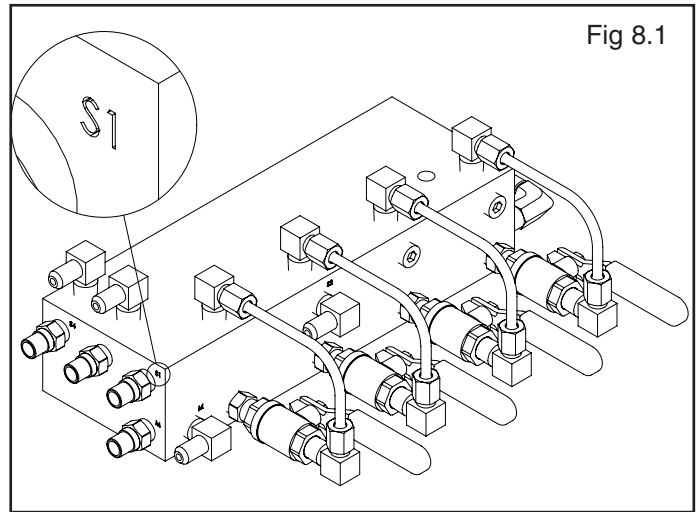

Fig 8.1
1. Your new lift has been pre-plumbed with hydraulic hoses. Connect the pre-marked hose ends to the corresponding marked port on the valve block assembly. (Ex. - S1 is connected to S1) (See Fig 8.1)